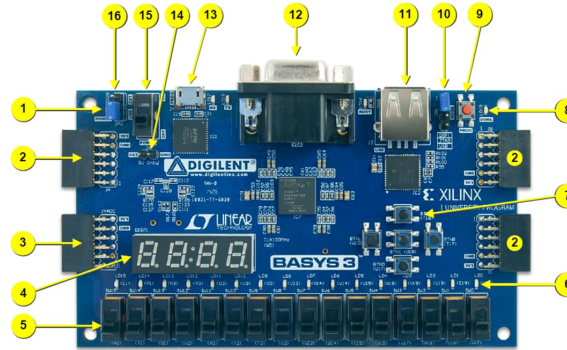

Figure 1. Basys 3 FPGA board with callouts.
- Push-buttons; to roll the dice, change the player turn and start a new game (see Callout 7 of Fig.1)
- LEDs; to display the value of the rolled dice (LEDs 15 to 13) and the current player (LEDs 0 and 1) (see Callout 6 of Fig.1)
- 7-segment display; to display total scores of both player (see Callout 4 of Fig.1)